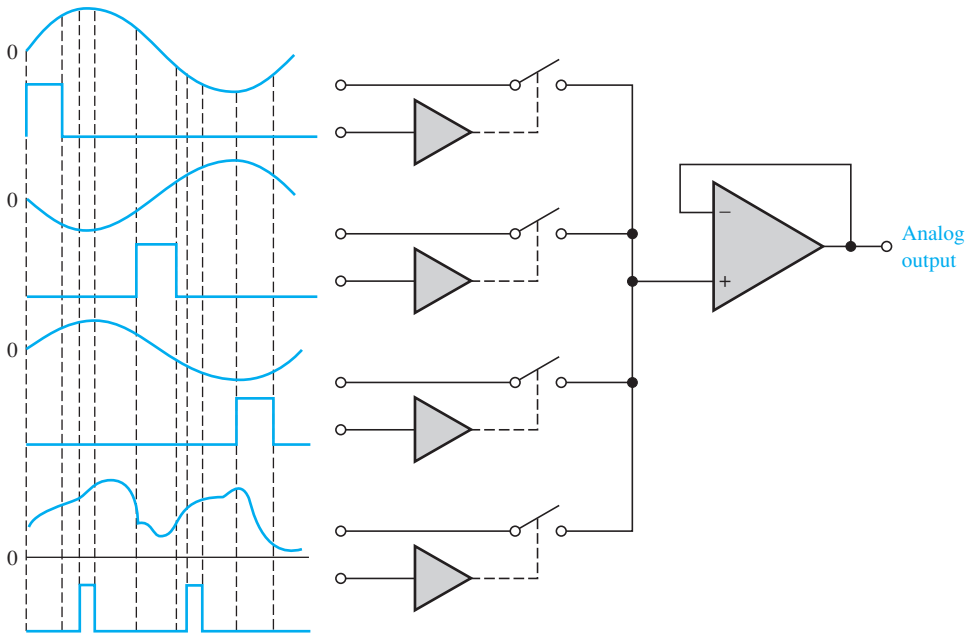

FIGURE 14-60
2. Determine the output of the 4-channel analog multiplexer in Figure 14-60 for the signal and control inputs shown. Assume each switch closes with a high input.